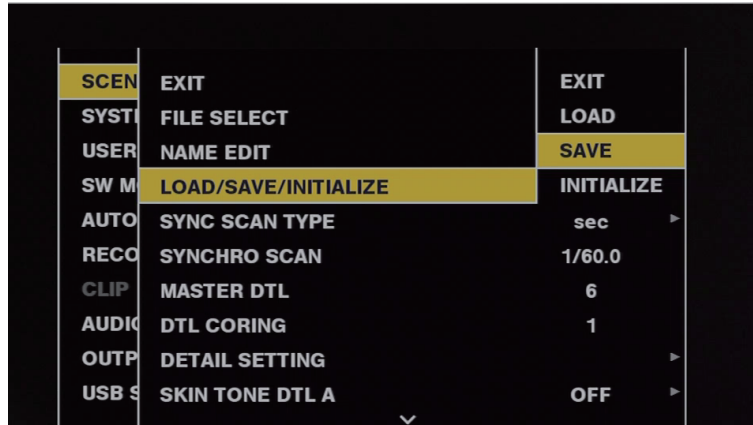

Fig. 1
- 2 Select [SAVE] in the main menu → [SCENE FILE] → [LOAD/SAVE/INITIALIZE] and press the control stick (or <SEL/PUSH SET> dial button). (Fig. 1)